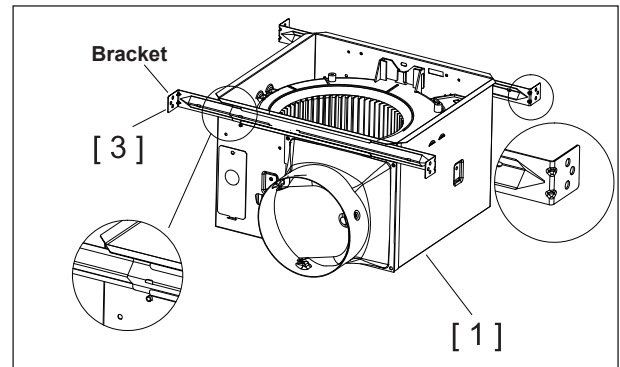

Fig 6
1. Insert two Brackets [3] to the duct side and two Brackets [3] to back of the Fan Body [1] as figure shows.(Fig 6)